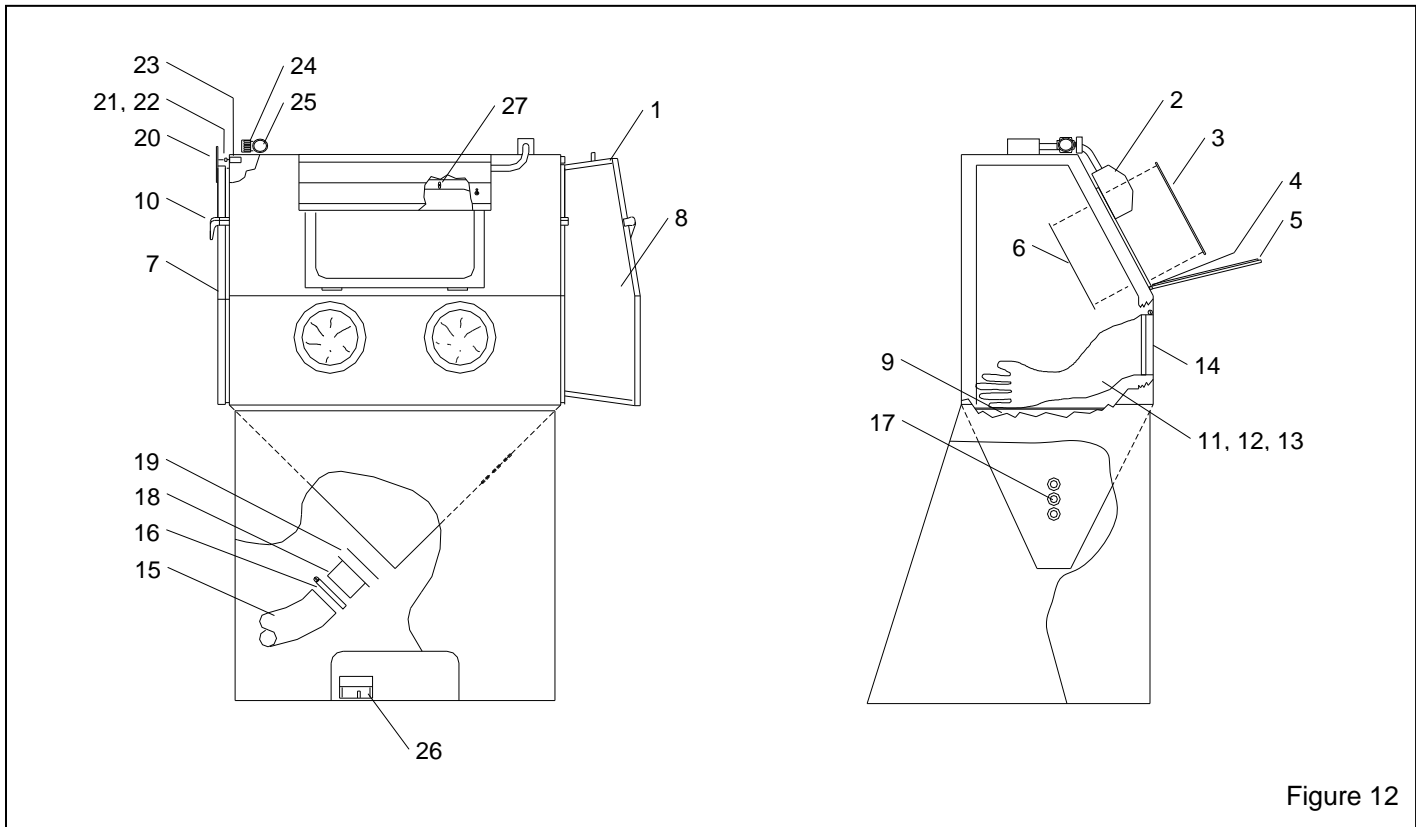

Figure 12
9.2 Cabinet Replacement Parts, Figure 12